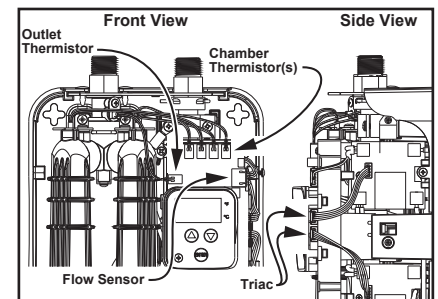

Figure 46 - Control Board Component Connections
**3** With the front cover removed, take a moment to record or photograph how the control board is installed and where each components wire connection is located. See Figure 46.
Properly reconnect the thermistor and flow sensor wire harnesses to the new control board. Make sure the flow sensor and thermistor wire harness connections are connected to the proper control board terminal. See Step 3, Figures 46 and 47.